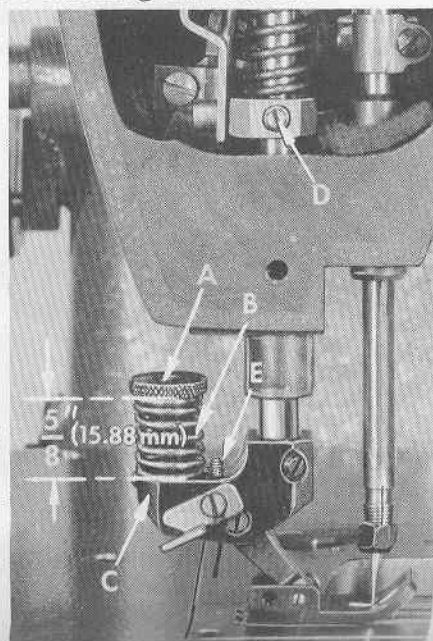

Fig. 15
As a preliminary setting, adjust the spring regulator nut (A, Fig. 15) on the feeding presser foot so the distance from the top of the spring (B) to the yoke (C) is $\frac{5}{8}$ inch (15.88mm), (See Fig. 15). Assemble the feeding presser foot to presser bar. With presser foot resting on throat plate and feed dog down, press down on spring regulator nut (A, Fig. 15) until the marks on the presser foot bottom line up with the centerline of the needle, while keeping the needle in the center of the needle slot, tighten set screw (D) securing the presser bar guide to the presser bar, making sure that the stop screw in the presser bar guide is resting on the bed casting.
When the presser foot is lifted off the bare throat plate, the foot should move back only slightly, less than 1/64 inch (.40mm). The stop screw (E, Fig. 15) on the yoke, which is set at the factory, can be readjusted if necessary, should this dimension become changed.